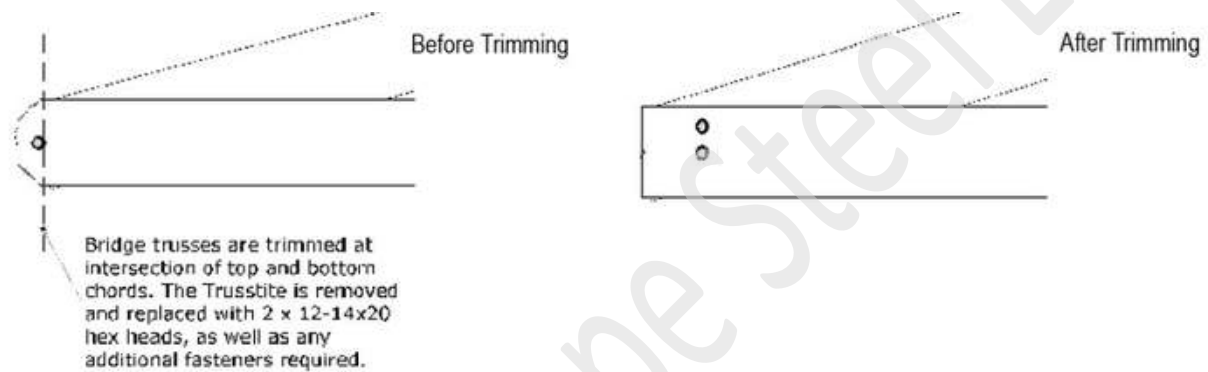

Figure 7.61
Step 8 The bridge trusses require to be trimmed at intersection of top and bottom chords. Refer to **Figure 7.61**.